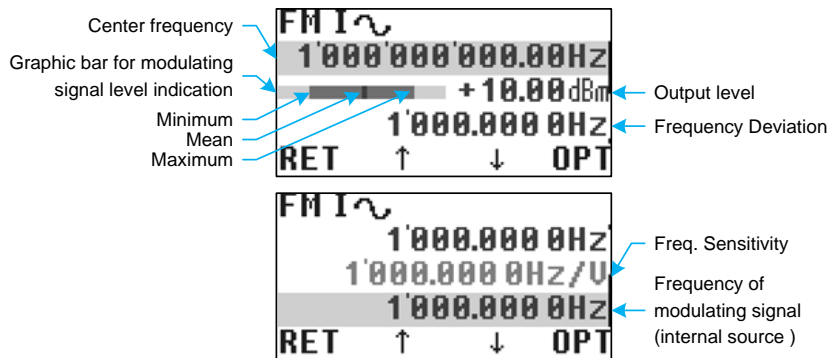

Figure 18: Frequency modulation mode (Operation Modes > Freq. Modulation)
Frequency modulation mode has the following parameters (fig. 18):
In FM mode such parameters of modulating signal as its minimum, maximum and mean values are displayed in form of graphical bar (fig. 18).
- FM Deviation, FM Sensitivity, Int Source Freq – these sub-menu items duplicate the corresponding items shown in fig. 18.